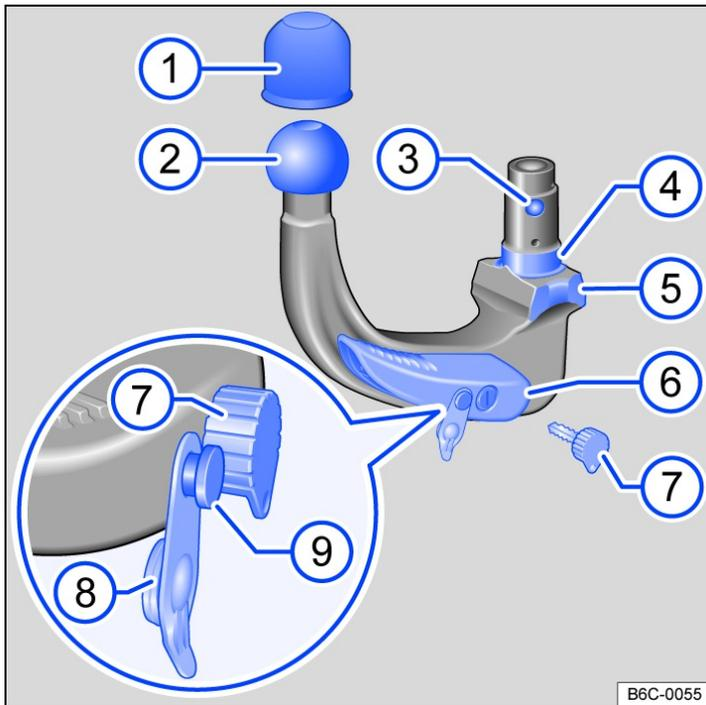

Fig. 1 Overview: removable ball head.
- If the smallest diameter on the ball head → Fig. 1 **3** is smaller than 49 mm, do not use the towing bracket.
- Remove the lock cap *→ Fig. 1* (8) from the lock in the locking lever and insert the key (7) into the lock.
- Turn the key (7) anti-clockwise until the part of the key with the hole is at the top.
- Hold the neck of the ball head under the ball head (2) with your hand.
- Press the release pin (9) and at the same time press the locking lever (6) down as far as it will go *→* ⚠. The ball head is pre-tensioned.
- Release the locking lever (6) and stow the pre-tensioned ball head safely with the vehicle toolkit.